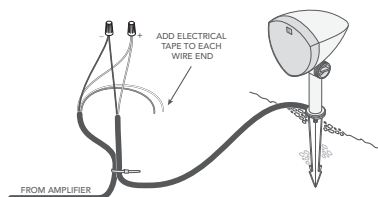

Figure 7
- Starting at the speaker furthest from the amplifier, strip 3/4" of insulation on the cut end of the burial wires for the appropriate amp channel according to the tables below, then strip insulation from the ends of the corresponding speaker's pigtail. Wrap any unused wires in electrical tape to protect them from moisture and short-circuiting (see Figure 7).
- Connect the burial cable to the speaker pigtail using a wire tie (see Figure 7).